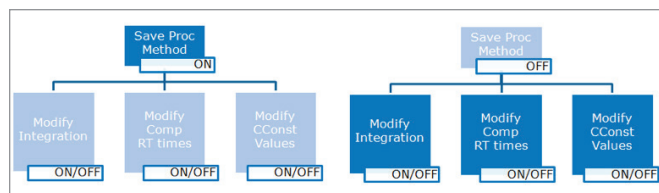

Figure 2. Hierarchy of Processing Method privileges. The bold color indicates which privileges are in effect.
- **Save Processing Method** – Allows the user to create new processing methods and/or modify existing processing methods. This allows users to modify ALL parameters in any section of the processing method. It is important to note that the more detailed privileges described below have no effect if this privilege is granted (Figure 2).